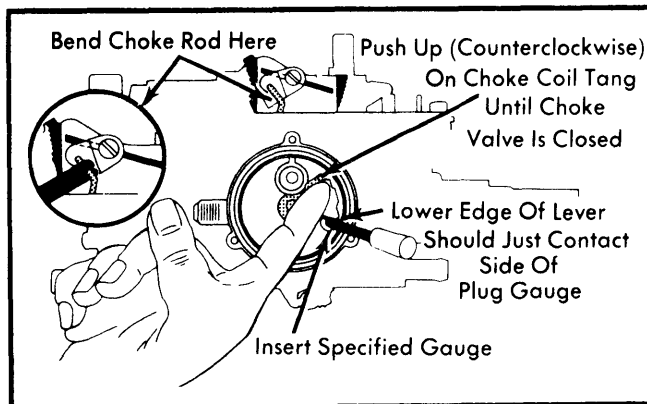

Fig. 4 Adjusting Choke Coil Lever
- 1) Remove 3 retaining screws, then remove choke cover and coil from choke housing. See Fig. 4.